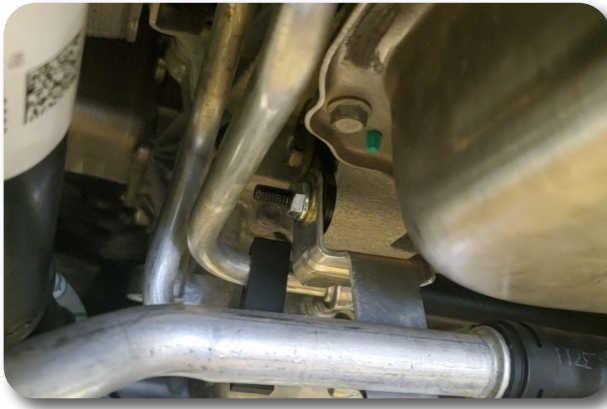

Figure 32B
47. **DIESEL MODELS ONLY:** Install fuel line drop bracket as shown in Figure 32B and 32C, Attach using factory hardware on top mount and provided 1/4" hardware on stud side of bracket. Install the OE lower control arms in the new crossmembers with the factory cam bolts. Run the front bolts from front to rear. Run the rear bolts from rear to front. Leave hardware loose.